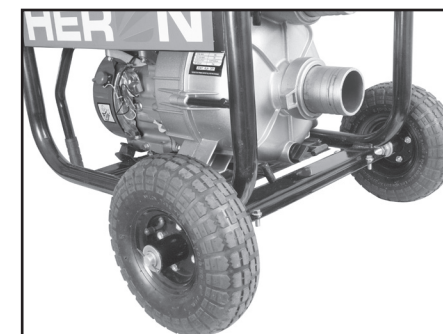
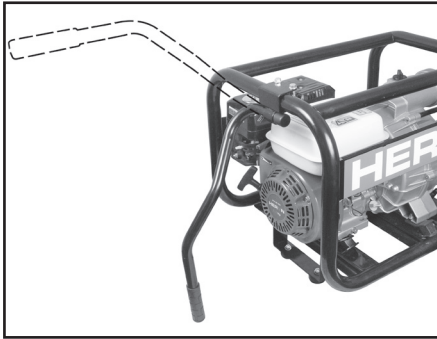

Fig. 4
Fig. 5
2. Assembling the undercarriage, stand and pull cord (Fig. 4, Fig. 5)